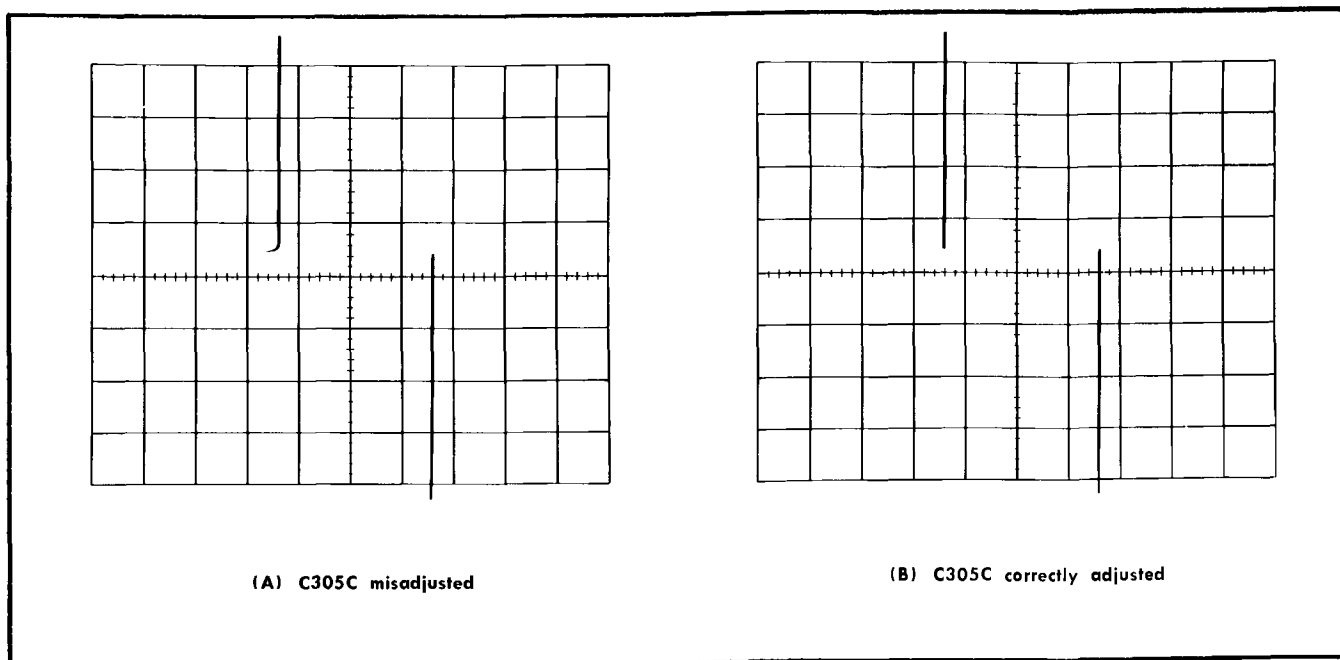

Fig. 6-23. Horizontal Amplifier attenuator compensation; 1 kHz square-wave input; SWEEP TIME/CM switch setting, .1 mSEC.
n. Check—Square front corner on waveform, with overshoot or rounding not exceeding 2% of the display amplitude. (See Fig. 6-23 for typical displays.)